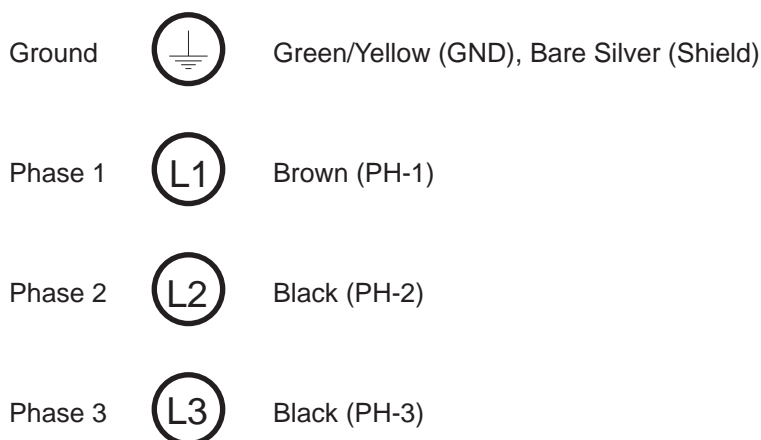
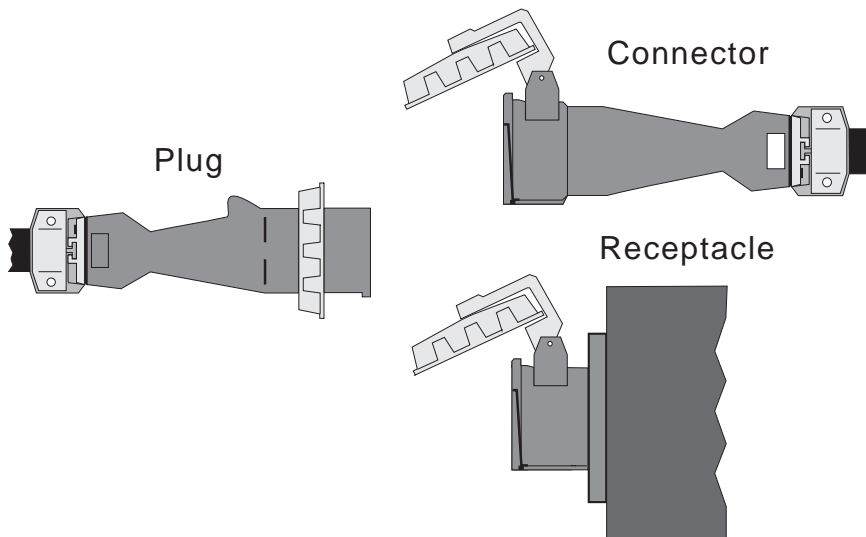
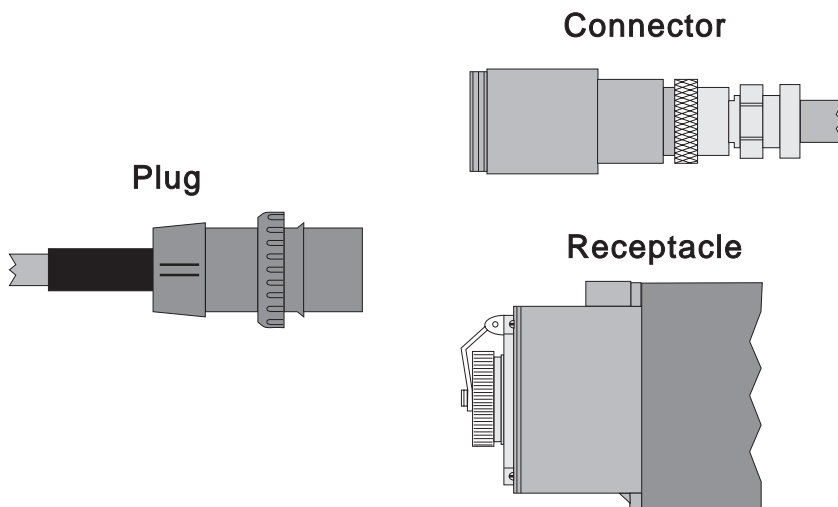

Figure 4-20. Wire positions in pin assembly
Figure 4-21. Three-phase power connectors (U.S.)
Figure 4-22. Single-phase power connectors (U.S.)
2. Insert wires into pin assembly as indicated in Figure 4-20. Secure by tightening retention screws. Figure 4-21 on page 4-23 shows a typical pair of three-phase power connectors. Figure 4-22 on page 4-23 shows a typical pair of single-phase power connectors (used with the 1.25 m frame).